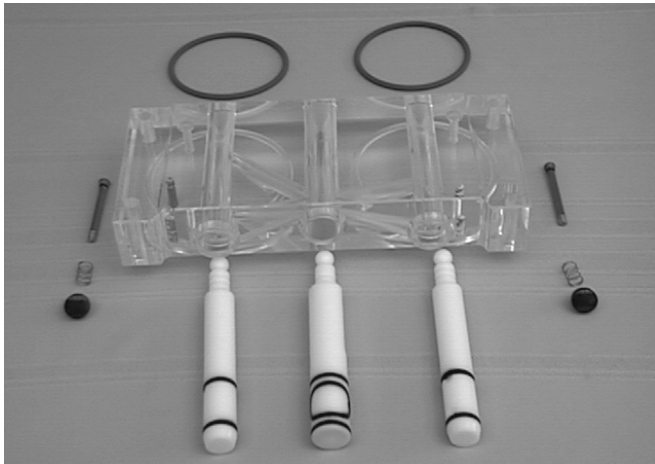

Figure 18. Front Door Disassembly
- H. Install the spigots through the bottom of the front door (see Figure 18).